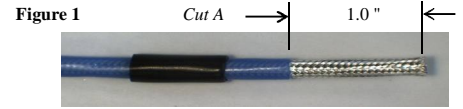

Figure 2a
- 2) Fold each pair back, and trim off the center spline as short as possible, using caution to avoid nicking or cutting into the wires (Figs 2a, 2b). Inspect wire insulation to verify insulation integrity.